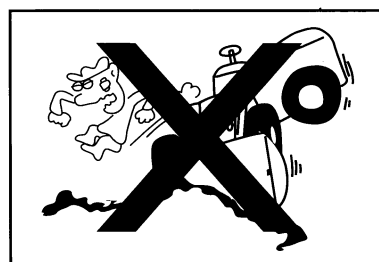

Figure1-70
- The loader should be aligned vertically to the heap to be loaded. If handling the heap from an oblique direction, the loader may be unbalanced. (Figure 1-70)